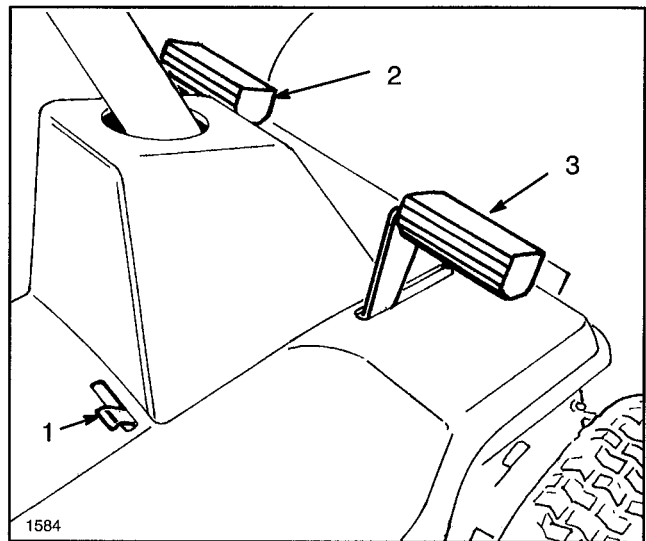

Figure 6
Clutch Pedal (Fig. 6)—Foot-operated clutch pedal is used in conjunction with gear shift. Depress clutch pedal fully when shifting gears. Depress clutch pedal whenever brake is used.
Brake Pedal (Fig. 6)—Foot-operated brake pedal must be depressed to slow down or stop the rider. When pedal is depressed, a caliper engages the brake disc on the side of the transmission. Always depress clutch pedal when using brake.
Parking Brake (Fig. 6)—Parking brake must be used in conjunction with brake pedal. When pedal is depressed and end of parking brake lever holds brake pedal in depressed position, a caliper engages the brake disc at side of transmission.
Ignition Switch (Fig. 6)—Switch has three positions: ON, OFF and START.
1. Engage the parking brake (Fig. 6): refer to using Parking Brake, page 13.
2. Move parking brake control to the left and release brake pedal until it contacts end of parking brake lever (Fig. 6).
3. To release the parking brake, depress brake pedal (Fig. 6), which will allow parking brake lever to return to its disengaged position. Then release brake pedal.